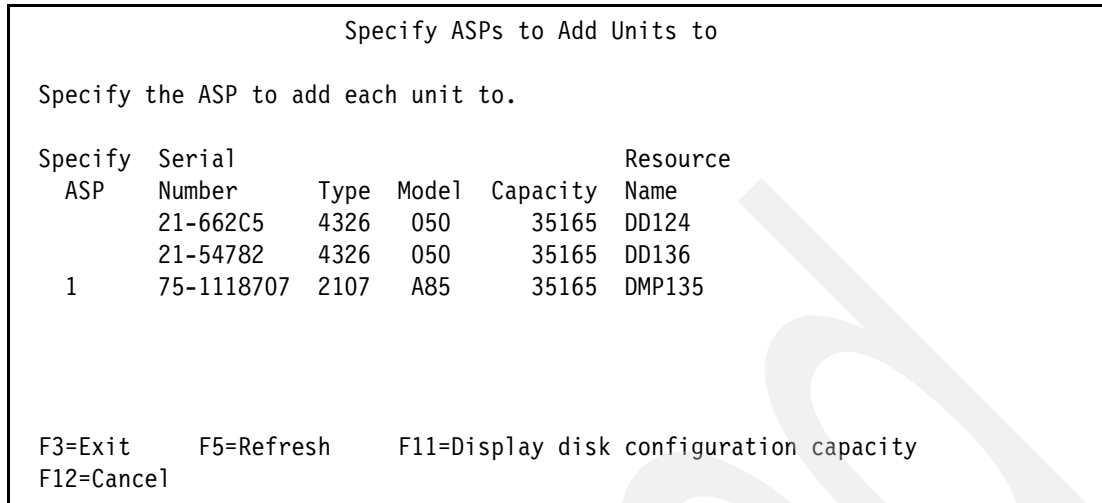

Figure 5-37 Adding multipath volumes to an ASP
4. In the Specify ASPs to Add Units to panel (Figure 5-37), the values in the Resource Name column show DDxxx for single path volumes and DMPxxx for those which have more than one path. In this example, the 2107-A85 logical volume with serial number 75-1118707 is available through more than one path and reports in as DMP135.